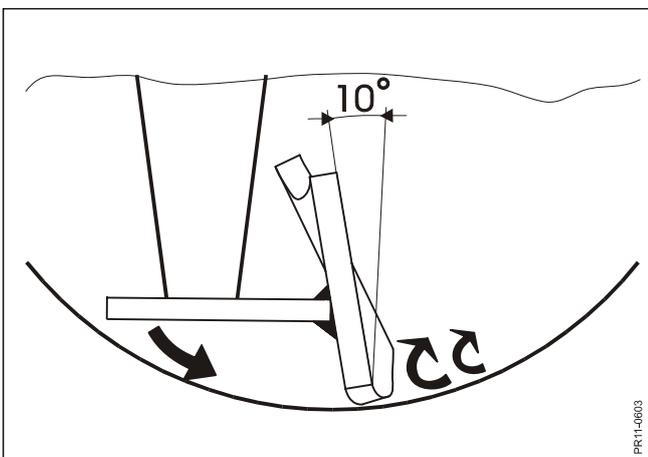

Fig. 2.2
**Fig. 2.2** The paddles are also inclined  $10^\circ$  in the rotor's direction of rotation to obtain the effect of lifting the material "away" from the sides of the tub.